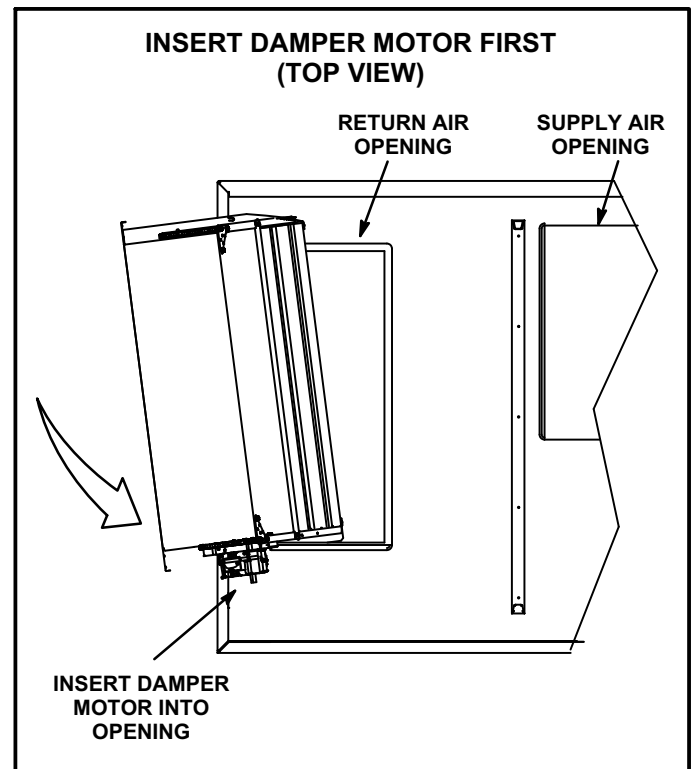

FIGURE 3
- 4- Install damper assembly by inserting the damper motor first. See figure 3.